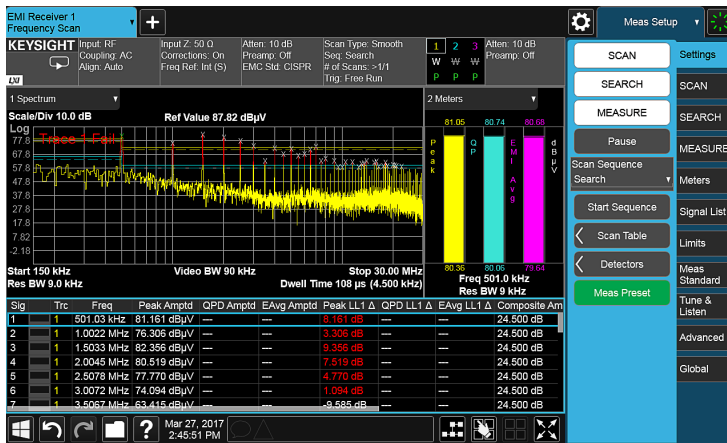

Figure 8. Scan and search for signals above the limit.
1. Switch on the DUT to find signals above the limit lines. This is a good time to check to make sure that the input of the signal analyzer is not overloaded. To do this, step the input attenuator up in value, if the display levels do not change, then there is no overload condition. If the display does change, then additional attenuation is required. The margin is also set so signals above the margin will also be listed. To identify the signals above the margin of either limit line, select scan and search to get the peak amplitude and frequency. The amplitude and frequency of the signals are displayed. In this case, 14 signals were captured (See Figure 8).